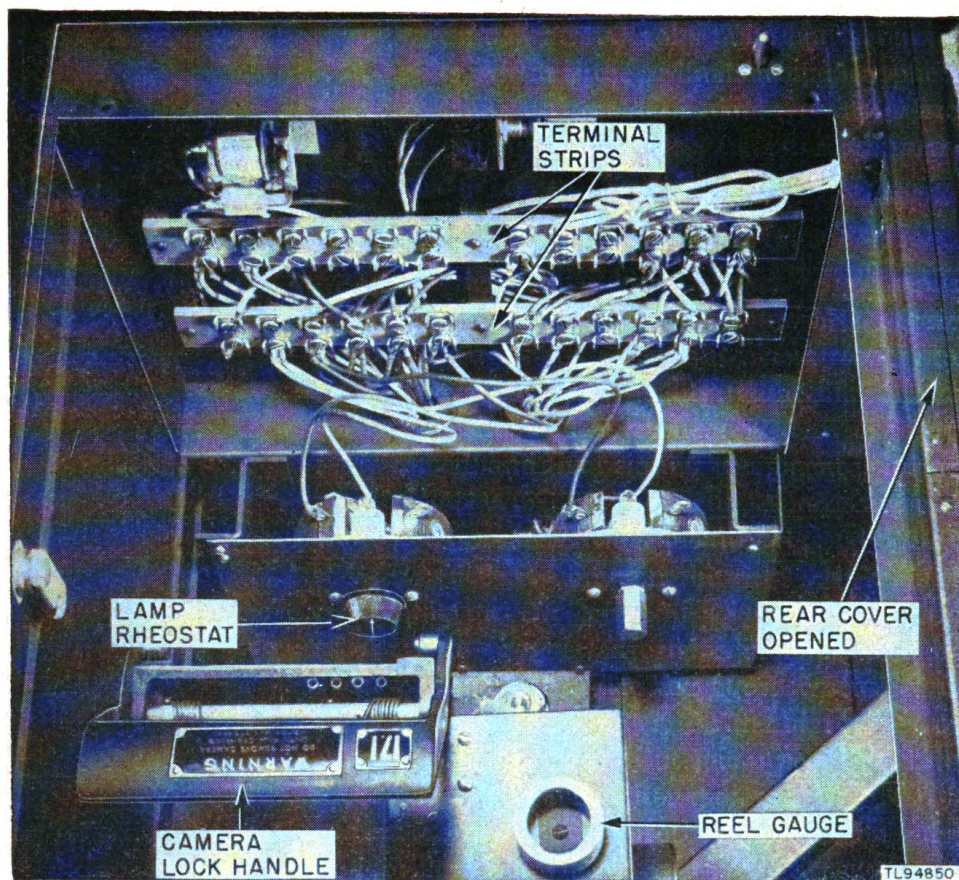

Figure 6. Location of rheostat on Recorder PH-283.
k. With the bracket held in this position, adjust the rheostat in the back of the recorder (fig. 6) until the desired meter reading, which may vary with different recorders, is obtained.